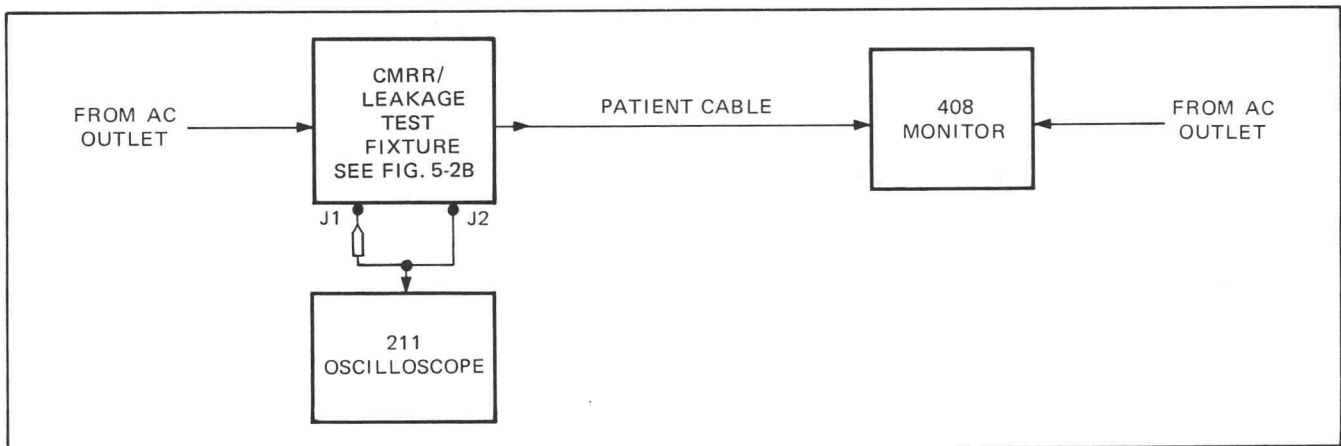

Fig. 5-10. Recommended method to check leakage current.
**RECOMMENDED METHOD.** Set up the monitor and the test fixtures as shown in Fig. 5-10.